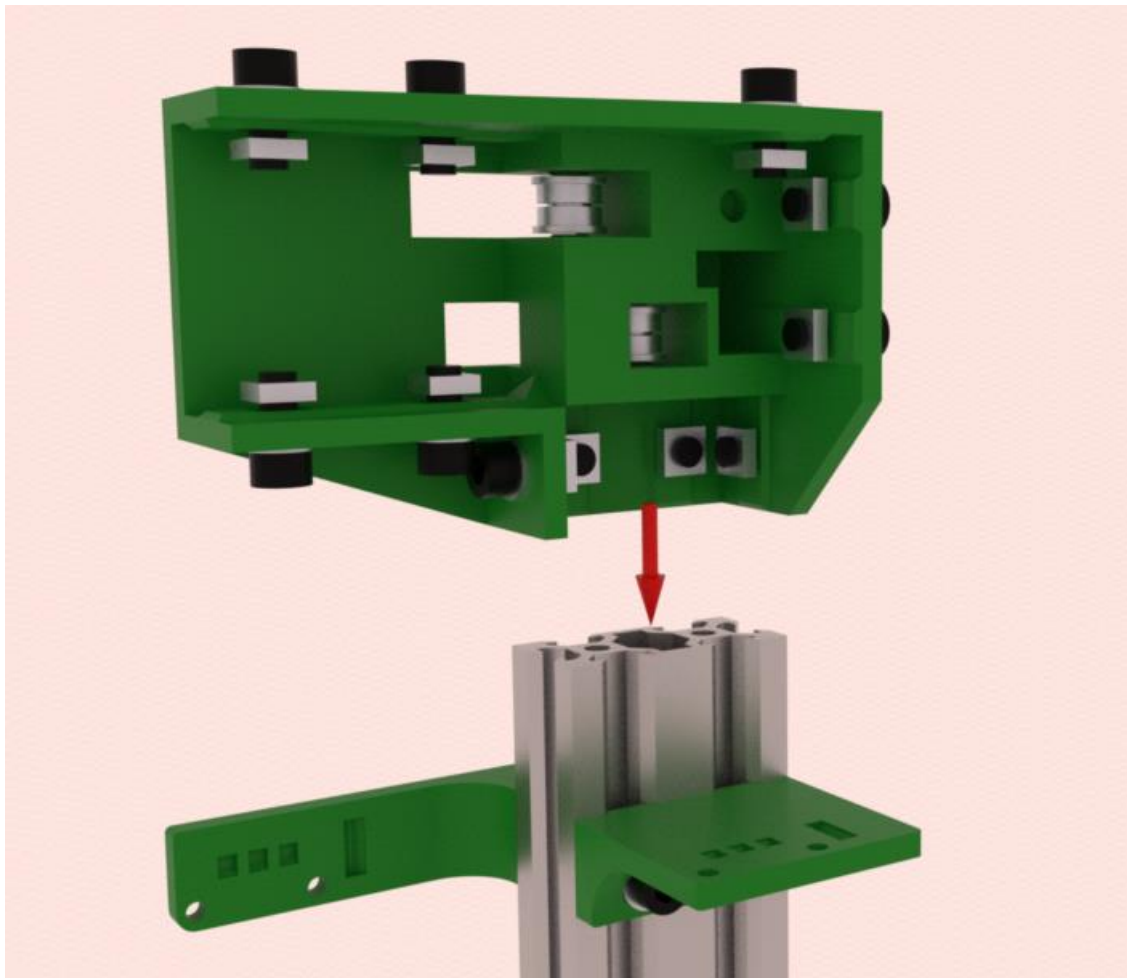

Figure 8: V-Slot and square nut alignment
- Put an M5 10mm bolt with an M5 washer through each plastic frame part where needed and put a square nut on the end of the bolt. Leave off the 14 bolts which attach to tapped holes for now. Some M5 bolt mounting locations are countersunk and do not need M5 washers. Once nuts and bolts are placed on plastic pieces, slide each part onto the V-slot rail from the open end as shown in Figure 8. The square nuts need to be lined up with the V-slot ends.